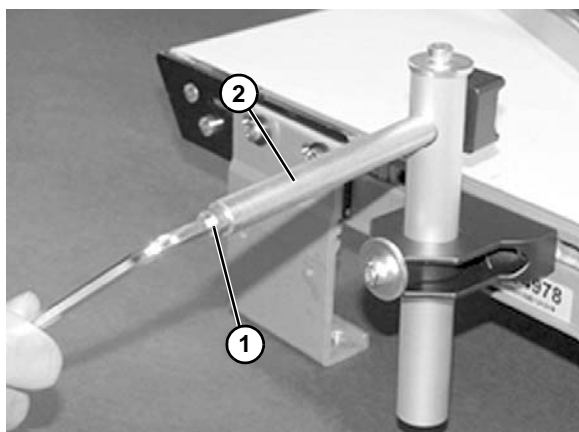
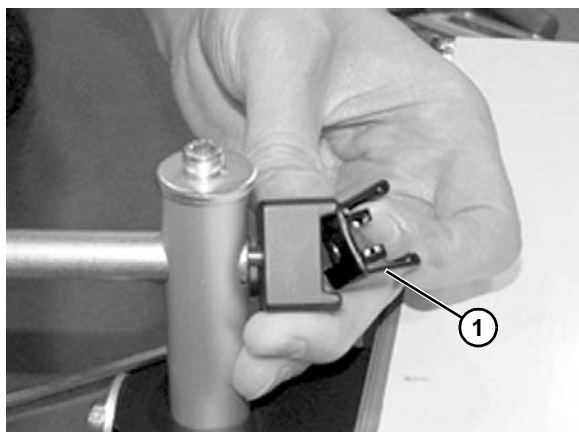
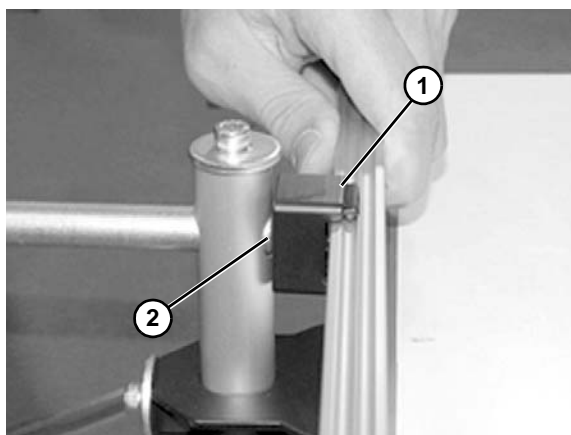

Figure 80
Figure 81
Figure 83
3. Loosen screw (**Figure 80, item 1**) on end of shaft (**Figure 80, item 2**) to remove clip (**Figure 81, item 1**).
5. Reassemble clip (**Figure 83, item 1**) and attach to shaft (**Figure 83, item 2**). Tighten screw (**Figure 80, item 1**) on end of shaft.